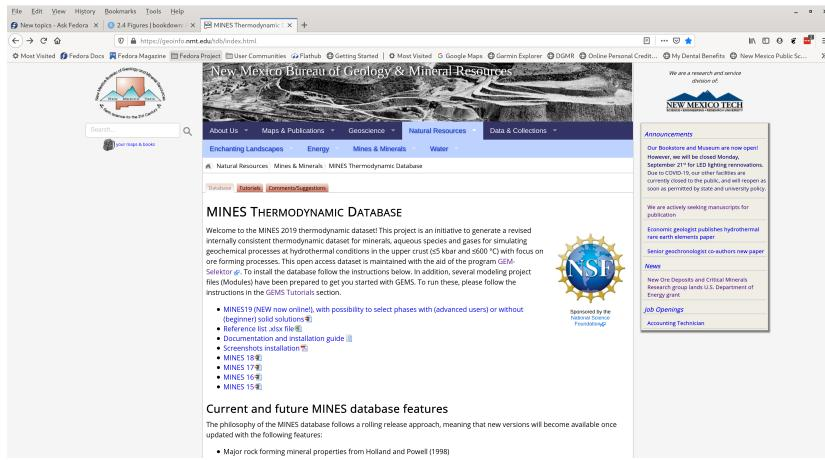

Figure 1.1: The MINES thermodynamic database webpage and files to download. Select the weblink for MINES19.
The MINES thermodynamic database can be downloaded at <https://geoinfo.nmt.edu/tdb> (Fig. 1.1).
- Finally, clone your existing Rct_path_1 chemical system by selecting it and choosing **Clone a new record from this one** in Panel 1 (Fig. 1.1). Change the name to Rct_path_2 and the temperature to 300 °C in the pop up window, and recalculate the equilibrium of this system.